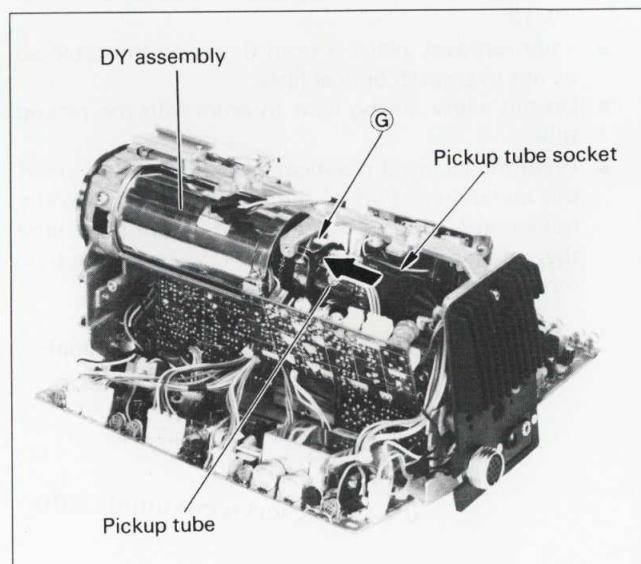

Fig. 9-14 Removal of the pickup tube (3)
- (4) Remove the pickup tube socket shown in **Fig. 9-14** and loosen pickup tube fixing screw **(G)**. Remove the tube in the arrow direction and pull it out from the front.
- (4) Secure pickup tube fixing screw **(G)** shown in **Fig. 9-14**. If snugged too tightly, the tube may break.